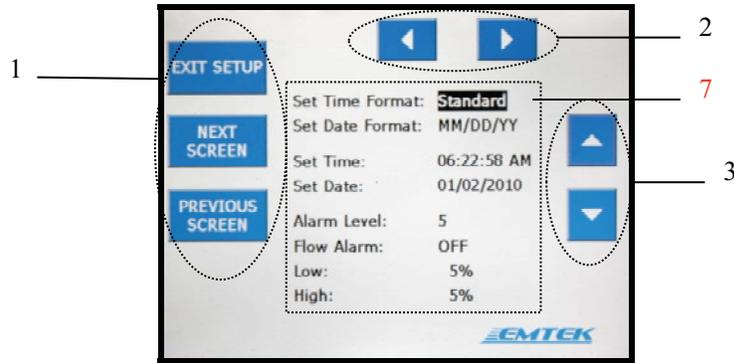

Fig 7.2.3 Setup Screen 3
**Flow Alarms:** During operation, the V100 detects high and low flow rates. Alarms are triggered based on user-defined thresholds between 0 - 25% (see Fig 7.2.3, #7). If the required flow rate differs by more than the defined threshold for more than ten seconds, an alarm screen appears and requires an acknowledgement by pressing the “OK” button (see Fig 7.7.1.a).